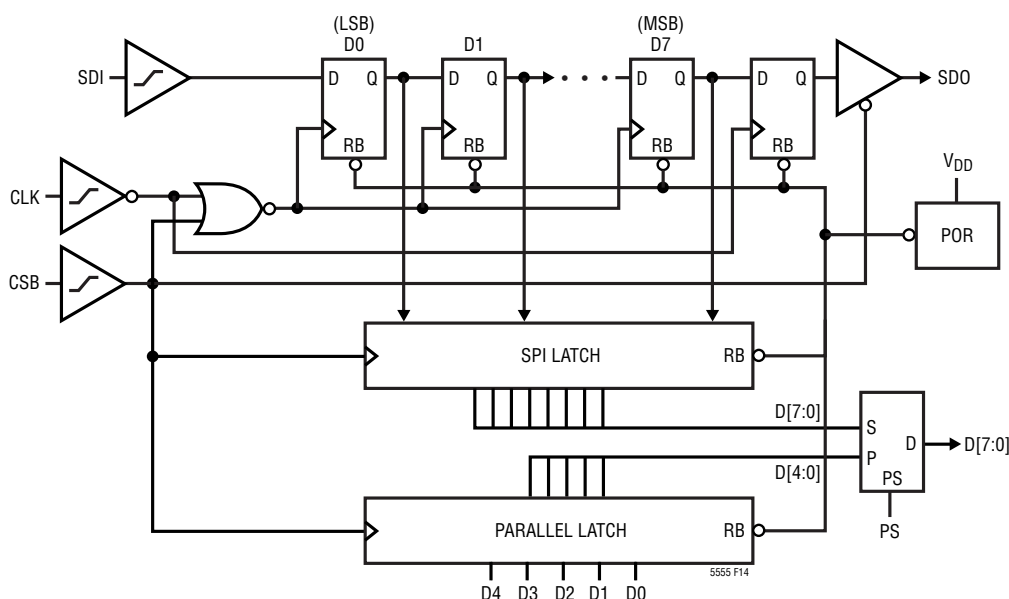
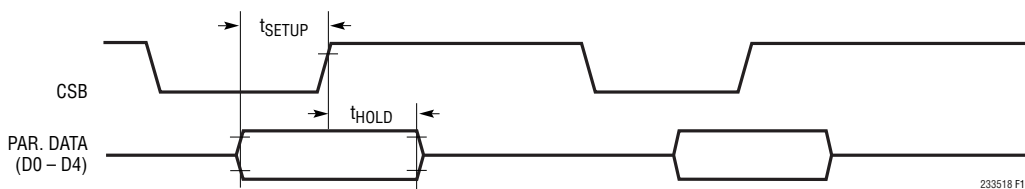

Figure 14. SPI Block Diagram
Figure 16. Parallel Timing Diagram
A block diagram of the SPI is shown in Figure 14. As shown, it is an 8-bit double-buffered FIFO slave architecture. Logic levels for the digital inputs and SDO output are 1.8V to 3.3V CMOS compatible, determined by the supply voltage on the V_{DD} pin. An internal POR (power-on-reset) connected to the V_{DD} pin, resets all 8-bits to logic 0 at power-up, or when V_{DD} drops below 0.5V and then rises back above 1.2V. The POR requires approximately 100μs to reset the registers.
The IF gain can be programmed directly using the parallel input pins (pins 17 – 21) when the Parallel Select pin (PS) is set high. (See the Pin Functions section for descriptions of the parallel data input pins.) As illustrated in Figure 14, the parallel data input pins are connected to an internal data latch and the CSB pin functions as the latch enable. When the CSB input transitions from logic low to high, the data present at pins 17 – 21 are latched in and take effect. See Figure 16 for timing details.